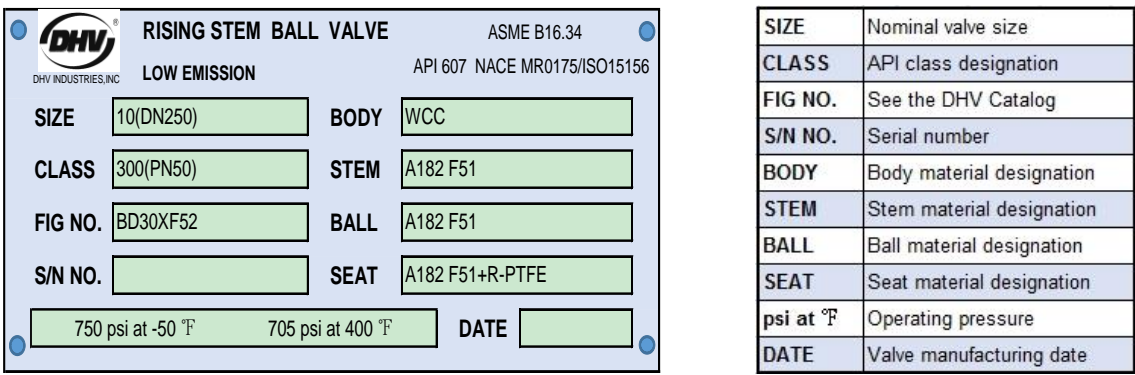

Figure 1 Typical Valve Nameplate Information
- Valve information can be found on the valve body, and the name plate. Fig 1 is a typical nameplate. Reference the information on our nameplate for ordering replacement parts, or when making inquiries about your valve’s operation or maintenance needs.